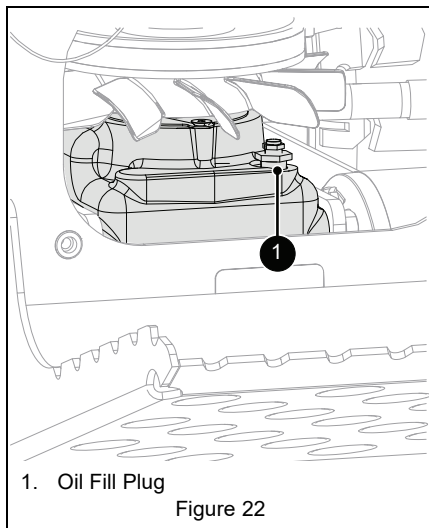

Figure 22
2. Remove oil fill plug. See Figure 22.